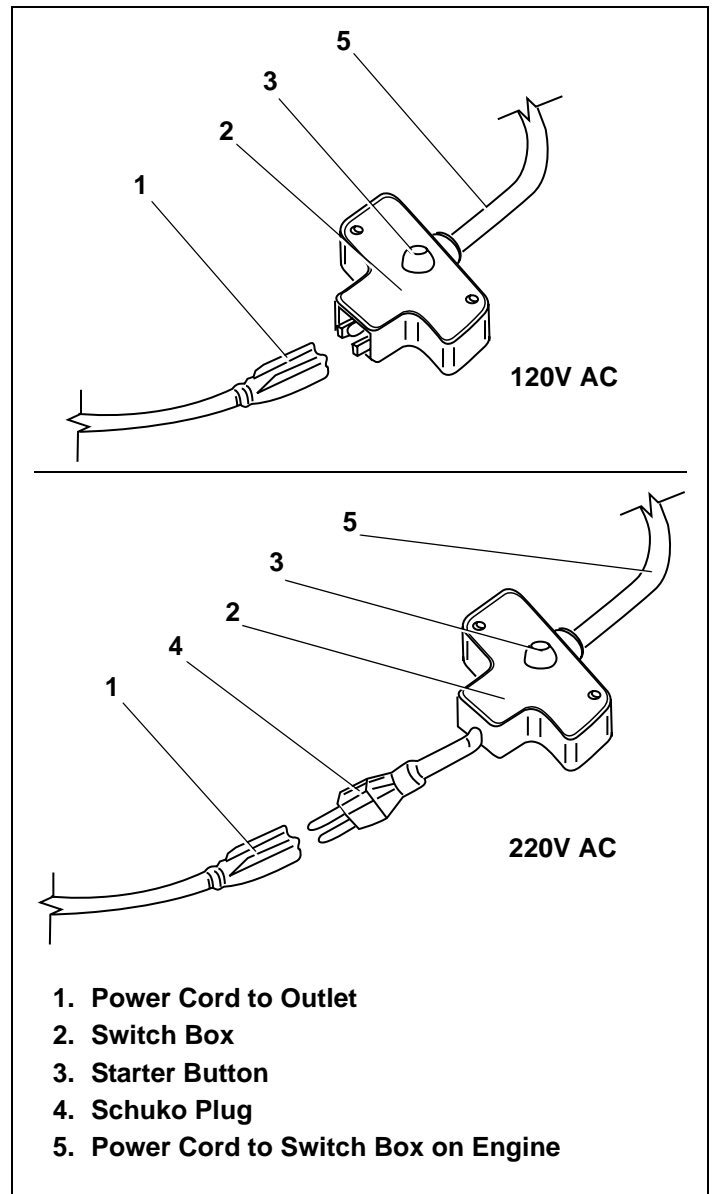

Figure 14. Electrical Applications
*When connecting power cord, always connect power cord to switch box on engine first; then into outlet. See Figure 14.*
*When disconnecting power cord, always disconnect power cord from outlet first; then disconnect switch box on engine. See Figure 14.*